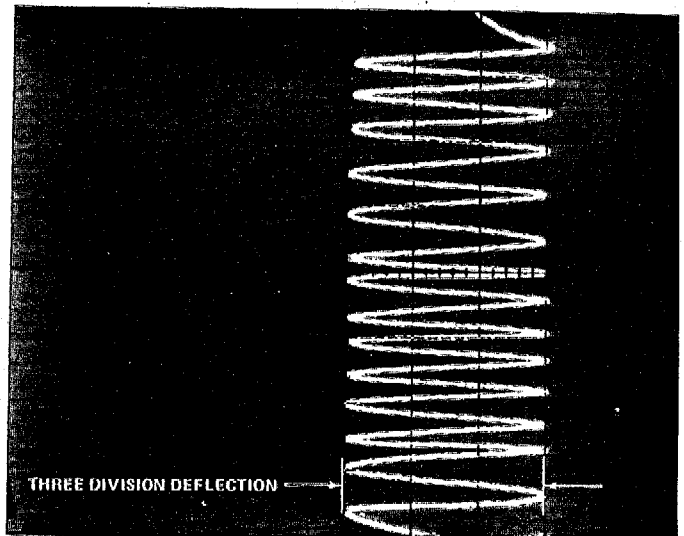

Figure 19 - Calibration of Box Pressure Amplifier
B.12. As the trace is moved up and down, adjust the Box Pressure Amplifier **GAIN** control until the *peak to peak* deflection measures three major divisions on the scope (Figure 19). The normal setting of this **GAIN** control is about 70-130. Do not be alarmed if your unit requires a slightly different adjustment.